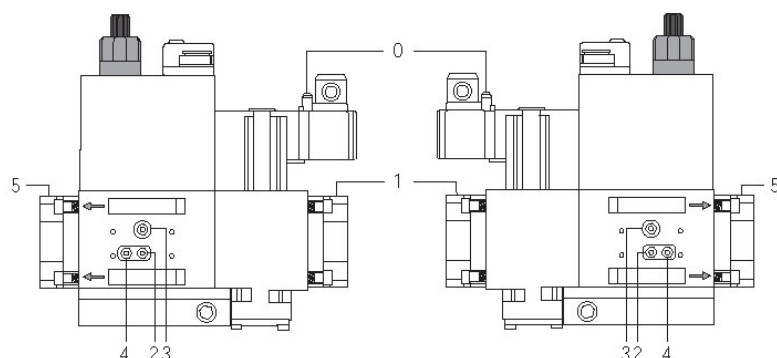
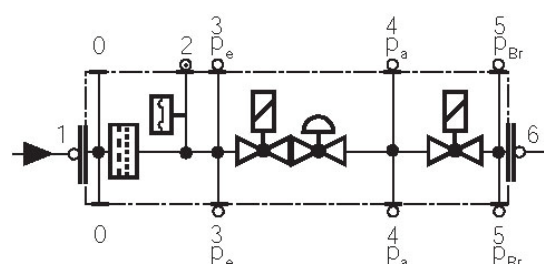

Fig. 18
Fig. 19
- Change the filter if the pressure difference between pressure connection 1 and 2 (Fig. 18-Fig. 19) $\Delta p > 10$ mbar.
- Change the filter if the pressure difference between pressure connection 1 and 2 (Fig. 18-Fig. 19) is twice as high compared to the last check.